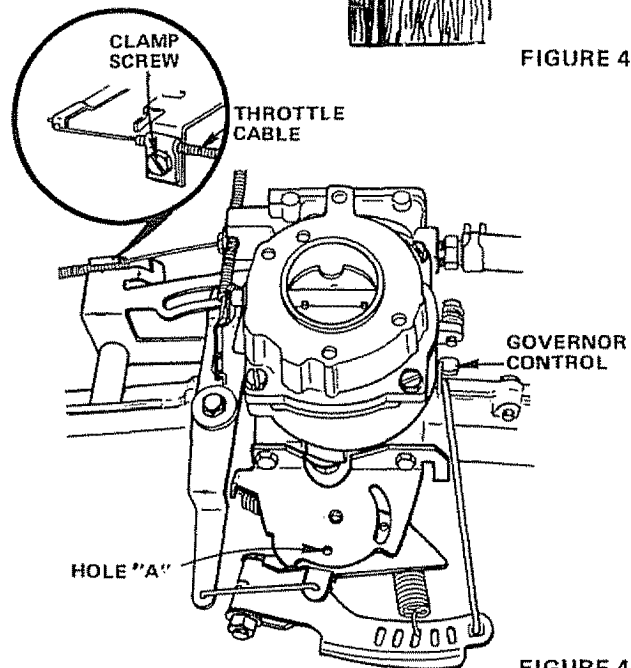

FIGURE 48
- d. Pull throttle cable tight (until swivel is against side of quarter circle). Fig. 48. Retighten casing clamp screw.